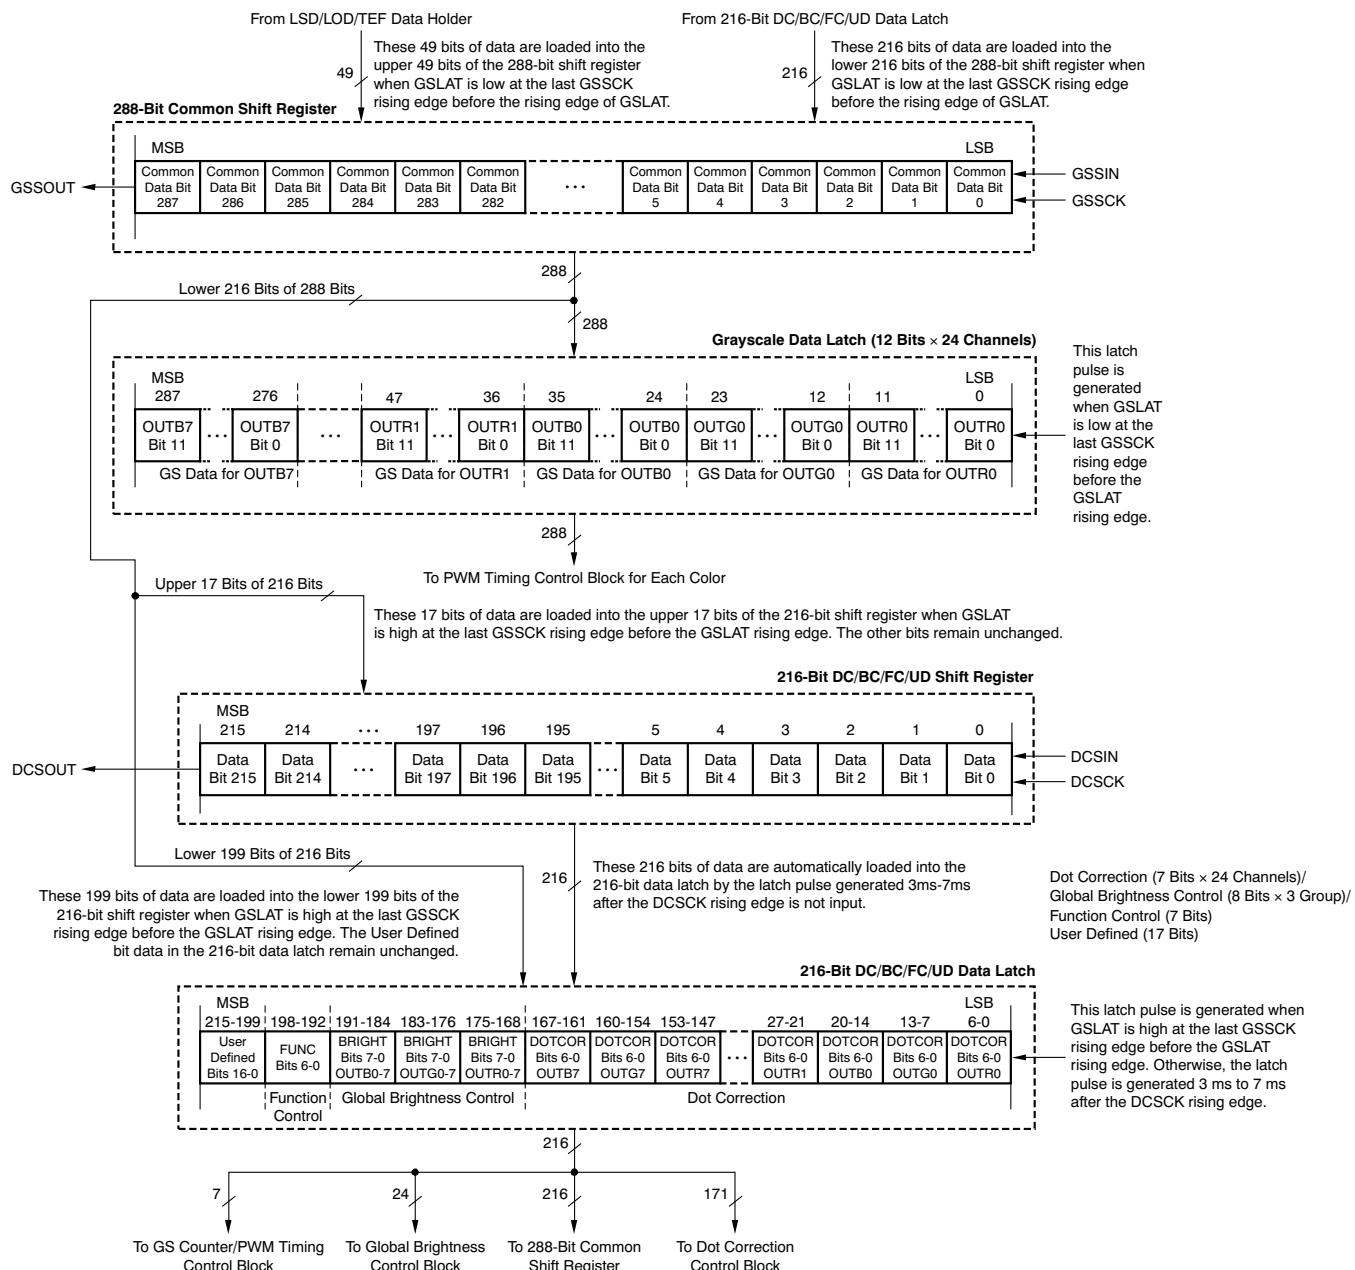

Figure 44. Grayscale Shift Register and Data Latch Configuration
The TLC5951 has two data latches to store information: the grayscale (GS) data latch and the DC/BC/FC/UD data latch. The GS data latch can be written as 288-bit data through GSSIN with GSSCK. The DC/BC/FC/UD data latch can be written as data through DCSIN with DCSC. Also, DC/BC/FC data can be written to the DC/BC/FC/UD data latch through GSSIN with GSSCK. UD data are written to the upper 17 bits of the 216-bit DC/BC/FC/UD shift register at the same time. The data in the DC/BC/FC/UD data latch can be read via GSSOUT with GSSCK. Figure 44 shows the grayscale shift register and data latch configuration.